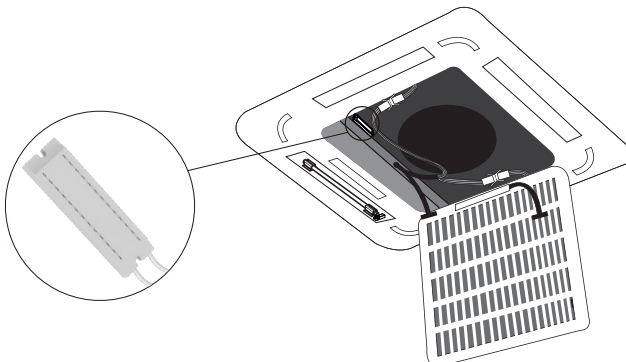

Figure 5.
- 5 Fix the power supply with 2 pcs 3M tapes. (Figure 5)